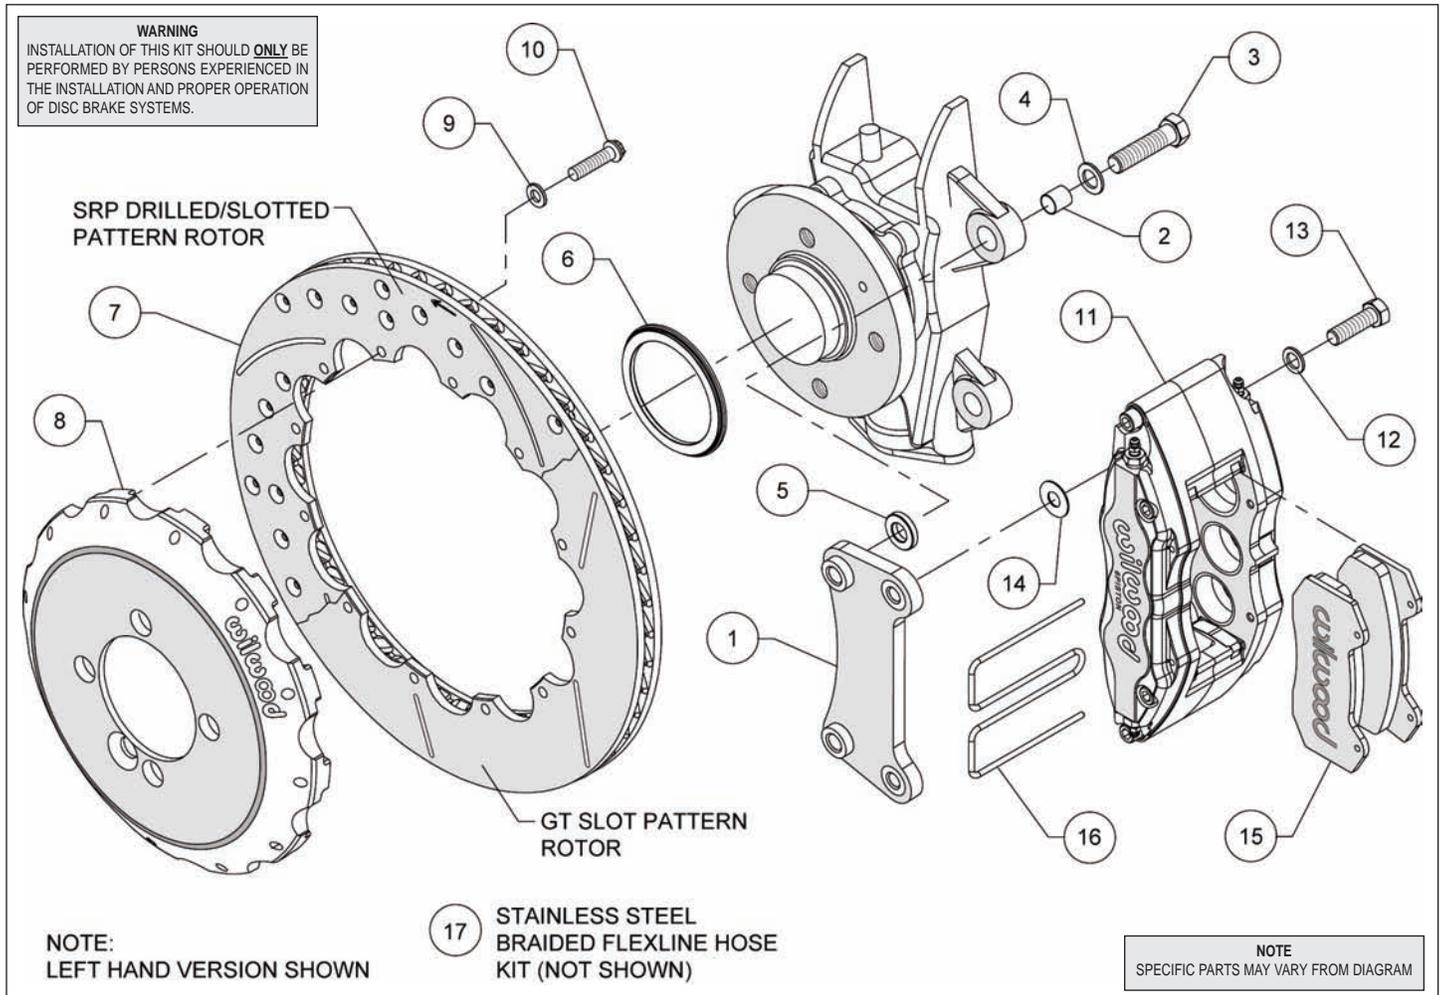
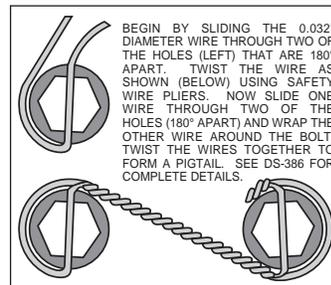
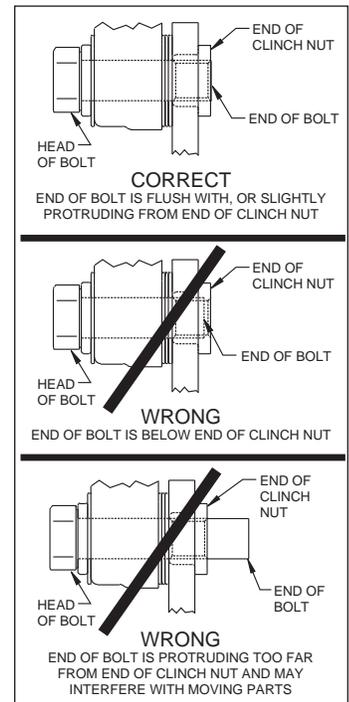

Figure 1. Typical Installation Configuration
Figure 3. Safety Wire Diagram
Figure 4. Clinch Nut Engagement Diagram
**Assembly Instructions** (numbers in parenthesis refer to the parts list and Figure 1 on the preceding pages): **CAUTION:** All mounting bolts must fully engage clinch nuts. Be sure to check that all bolts are either flush or protruding through flanged side of clinch nut after shimming, Figure 4.
- Orient the caliper mount bracket (1) as shown in Figure 1 and Photo 1, and install using bolts (3), washers (4), and spacers (5). Insert one sleeve (2) into each of the upright mounting lug holes, Figure 1. Place the spacer between the Original Equipment Manufacturer (OEM) mounting lug and the bracket, Figure 1. Ensure that the flanged heads of the clinch nuts in the bracket are facing outboard, Photo 1. Temporarily tighten the mounting bolts. **NOTE:** The bracket must fit squarely against the mount bosses on the upright. Inspect for interference from casting irregularities, machining ridges, burrs, etc. Remove bolts one at a time, apply red *Loctite*® 271 to the threads and torque to 60 ft-lb.
- Orient the rotor (7) and the hat (8) as shown in Figure 1 and Photo 2. Attach rotor to hat using bolts (10) and washers (9). Using an alternating sequence, apply red *Loctite*® 271 to the threads, and torque to 155 in-lbs. For an added measure of security, the bolts may be safety wired using standard 0.032 inch diameter stainless steel safety wire as shown in Figure 3.
- Slide the rotor registration adapter (6) onto the axle register on the axle hub with the smaller O.D. facing toward the rotor/hat (7/8), Photo 3. Align the locating hole in the hat to the hub and slide the hat/rotor assembly onto the hub. **NOTE:** The hat must fit flush against the hub flange or excessive rotor run out may result. Install the stock hat locator bolt and torque to OEM specifications.
- **NOTE:** Please reference the caution statement at the beginning of the assembly instructions. This kit contains distinct right and left hand calipers that must be mounted in a specific direction, as described below. Mount the caliper (11) onto the caliper mounting bracket (1) using bolts (13) and washers (12), as shown in Figure 1. Initially place one .035" thick shim (14) on each bolt between the caliper and the bracket, Photo 4. Ensure that the caliper is mounted so the largest pistons are at the rotor exit end of the caliper, in relation to the direction of rotor rotation. Temporarily tighten the mounting bolts and view the rotor (7) through the top opening of the caliper. The rotor should be centered in the caliper, Photo 5. If not, adjust by adding or subtracting shims between the bracket and the caliper. Always use the same amount of shims on each of the two mounting bolts. **NOTE:** The end of each bolt must be flush with or slightly protruding from the head of the clinch nut, as shown in Figure 4. If necessary place spare shims between washer (12) and caliper mounting ear to achieve the proper clinch nut engagement. Once the caliper alignment and clinch nut engagement are correct, remove the bolts one at a time, apply red *Loctite*® 271 to bolt threads, and torque to 40 ft-lb.